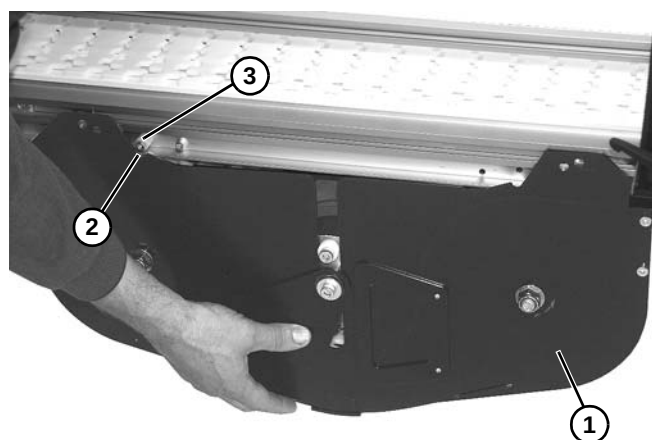

Figure 26
4. Raise weighted take up assembly (**Figure 26, item 1**) with notch (**Figure 26, item 2**) in assembly mating with stud (**Figure 26, item 3**) on conveyor frame.